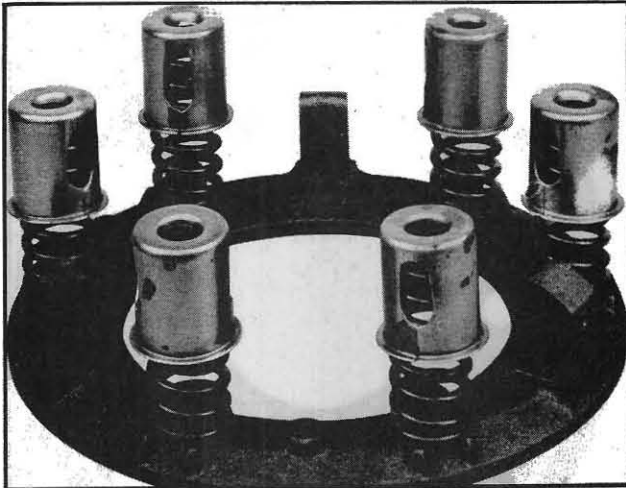

Fig. 122
1. Place thrust springs and thrust spring cups on the bosses on the pressure plate as shown in Fig.122.